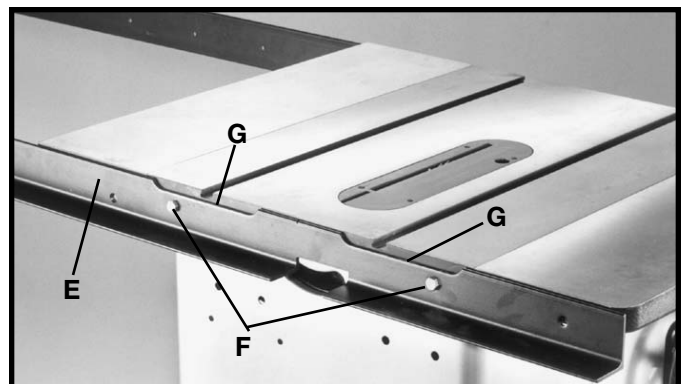

Fig. 91
3. Assemble rear rail (E) Fig. 91, to rear of saw table using the two 3/8-24 x 1-1/4" long hex head screws (F), 7/8" O.D. flat washers, and lockwashers as shown. NOTE: When mounting, the two screws (F) are threaded into the threaded holes in the saw table, as shown.
4. Make certain top edge of rail (E) Fig. 91 is below table surface and that top edge of cut-outs (G) are below miter gage slots before tightening screws (F).